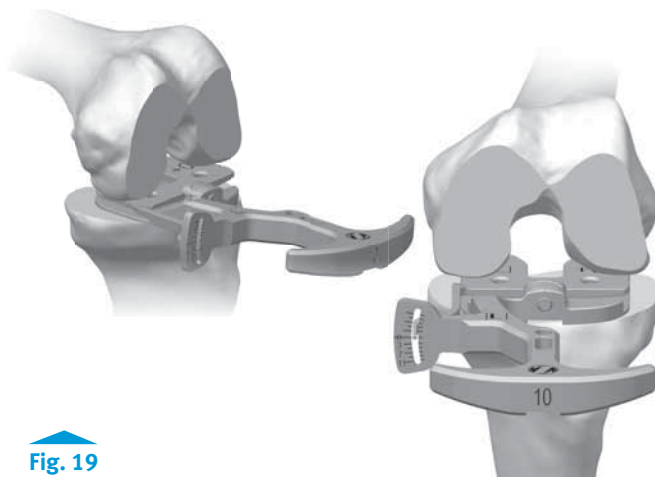

Fig. 19
- Remove the *Zimmer FuZion* Spacer Block from the extension gap. Dissassemble the *Zimmer FuZion* +9mm Femoral Paddle from *Zimmer FuZion* +0mm Femoral Paddle. Bring the leg into 90° of flexion. Insert the *Zimmer FuZion* Spacer Block between the cut tibial surface and the uncut posterior condyles, as shown (Fig. 19).
- Ensure that the posterior condyles are contacting the flat surfaces of the medial and lateral sides of the femoral paddle, that the tibial paddle is sitting flush against the tibial surface and that joint is tensed. Read the angle in the angle display. If the angle is in the positive portion of the angle display, set your *Persona* Posterior Referencing Sizer to that angle (external rotation). If the scale is in the negative portion of the angle display (portion of the angle scale without numbers) the medial compartment is opening wider than the lateral and the appropriate steps should be made to insure a rectangular flexion space when the posterior resection is made (Fig. 19). If the collateral soft-tissue does not provide adequate stability, the surgeon should use his/her professional medical judgment to assess whether a more constraining implant/system or revision implant/system is necessary.